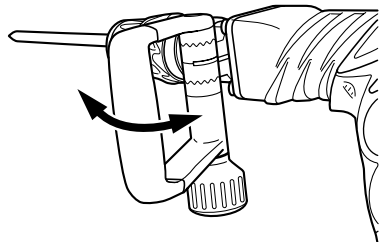
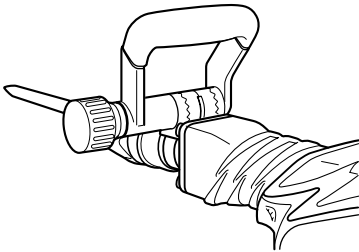
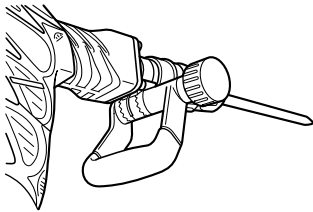

Fig. 5
Fig. 6
Fig. 7
- (2) Adjust it to a position where vertical (up-and-down) operation can be facilitated as illustrated in Fig. 5, Fig. 6, and Fig. 7.
- (3) Turn the grip in the direction of (B) and fix the handle.